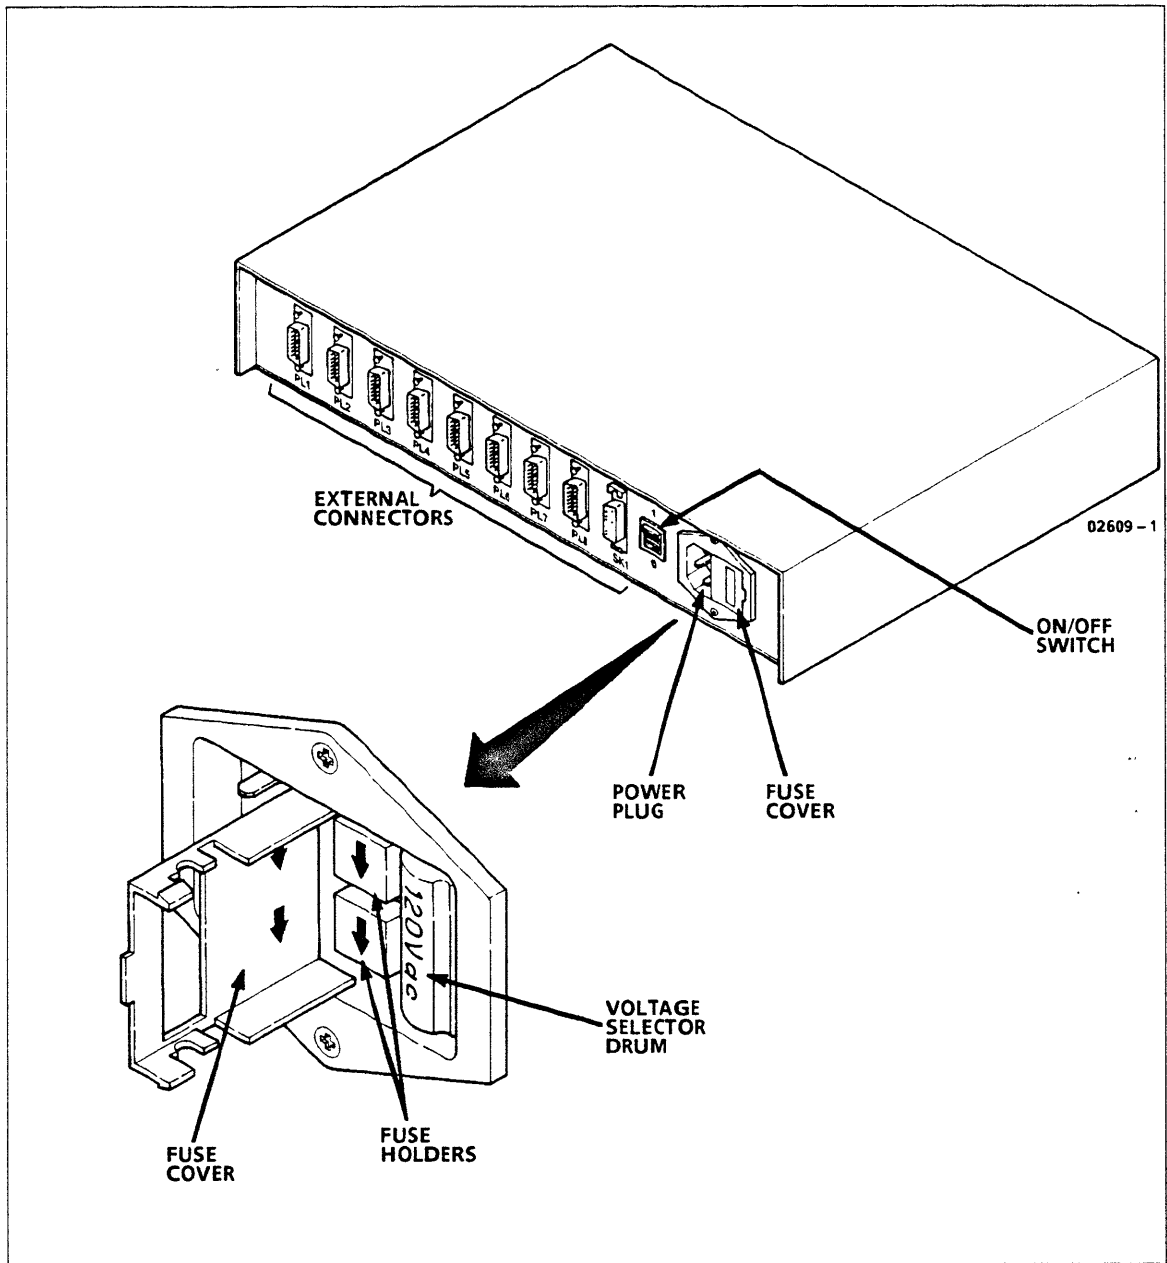

Figure 2-12. Multiplexer Voltage Selection
- b. Using small screwdriver, pry open righthand side of fuse cover. Figure 2-12 shows voltage selector drum and fuse holders.